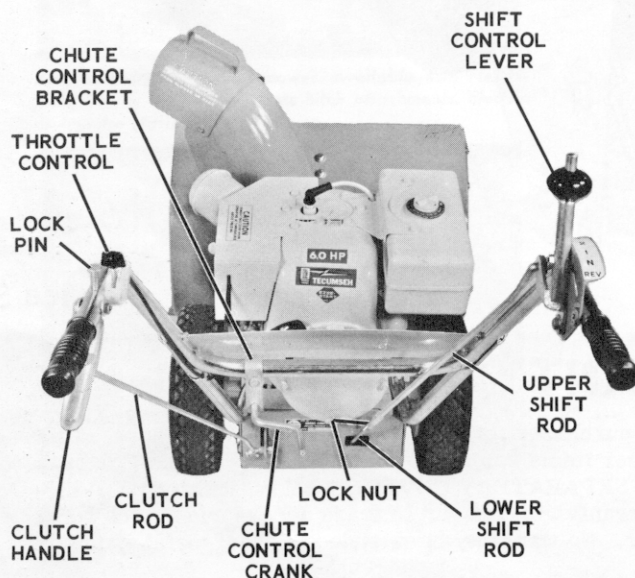

Figure 1
c. Remove the four bolts from the lower portion of the upper handle bar and slide the upper handle bar in place between the curved portions of the lower handle bars (figure 1).
Position the shift control (figure 1) on the inside of the handle bars on the right hand side so that the holes in the control line up with the holes in the handle bar. Fasten the control to the handle bar with two hex head cap screws and lockwashers (figure 1).
a. Pull up as far as possible on the lower shift rod which projects from the rear of the engine mounting frame (figure 1). Screw the threaded portion of the upper shift rod over the lower shift rod.
b. Slide the straight end of the clutch rod through the ball joint mounted on the clutch arm (figure 1) and place the bent end of the rod through the hole in the clutch operating handle (figure 1).
a. Slide the chute control rod through the hole in the bracket (figure 1) mounted on the left hand side of the handle bar.
a. Using the two self-tapping screws provided, fasten the throttle control lever (figure 1) to the inside of the left hand handle bar.